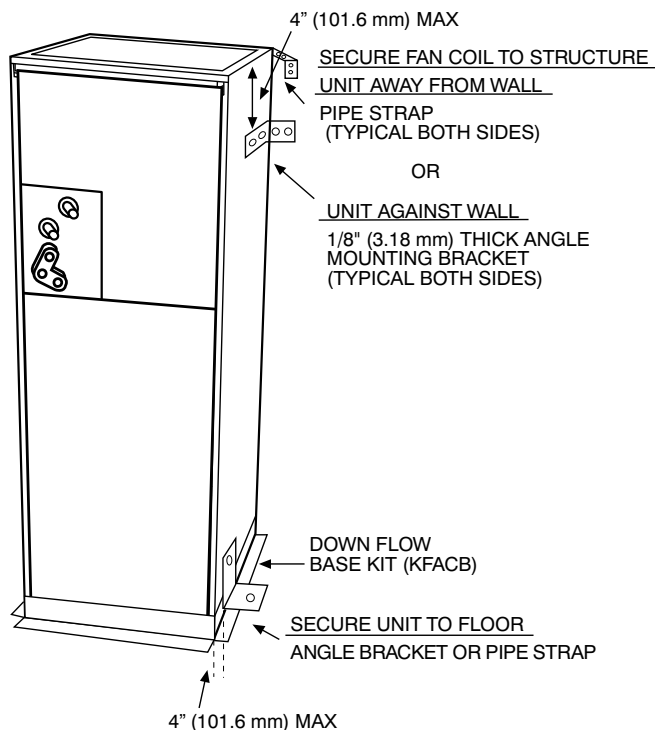

Fig. 7 – Mobile Home or Manufactured Housing Applications ^{A07141}
- b. If fan coil is against wall, secure fan coil to wall stud using 1/8-in (3 mm) thick right-angle brackets. Attach brackets to fan coil using no. 10 self-tapping screws and to wall stud using 5/16-in. lag screws (Fig. 7).